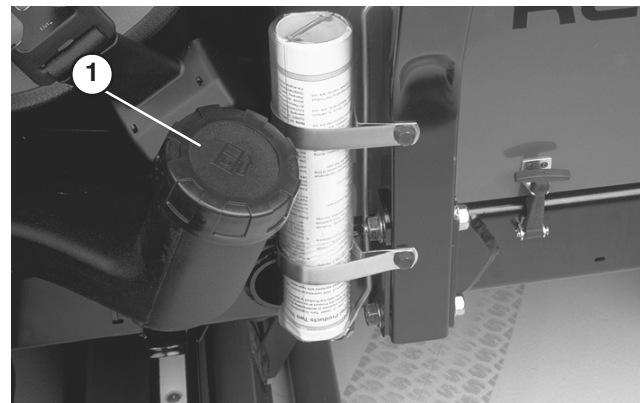

Figure 27
1. Clean area around fuel tank cap (Fig. 27).